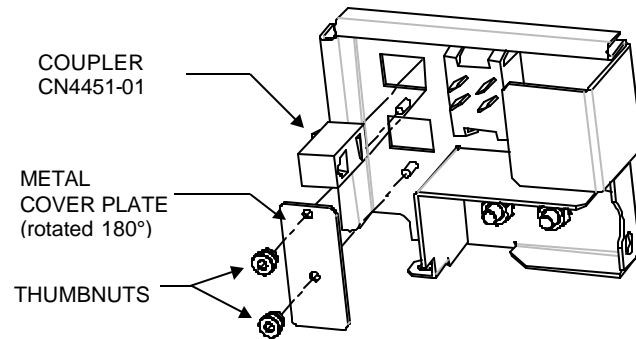
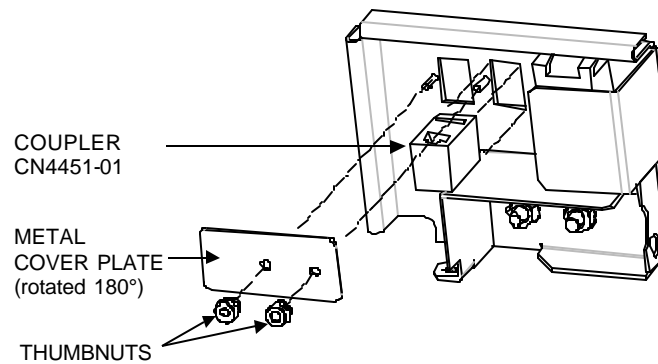

FIGURE 8 - MAXX SELECT™ AND SLIM MAXX™ COUPLER INSTALLATION
FIGURE 9 - MAXX SELECT™ AND SLIM MAXX™ COUPLER INSTALLATION
19. Orient the supplied, snap-in coupler and insert it into the open access hole. For vertical oriented access holes see Figure 8. For horizontally oriented access holes see Figure 9.